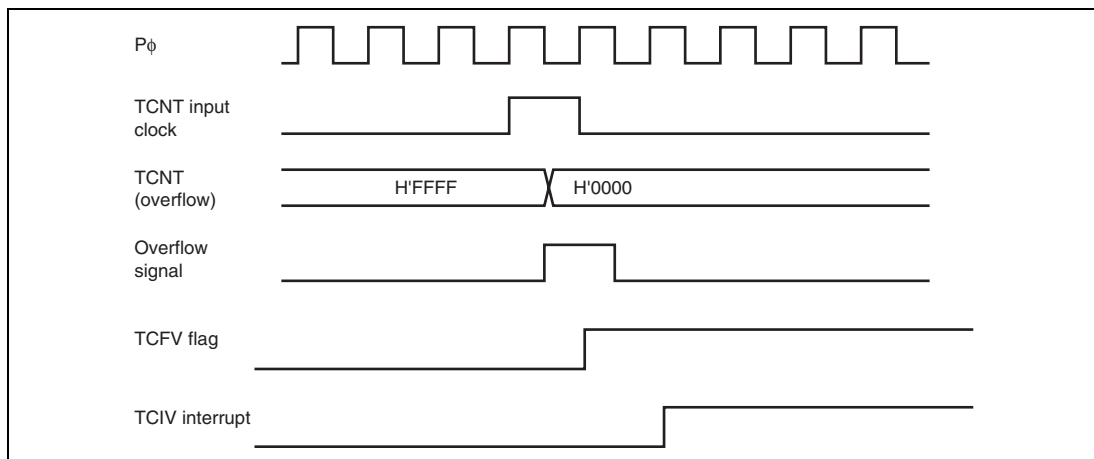

**Figure 11.66 TCIV Interrupt Setting Timing**
**TCFV Flag/TCFU Flag Setting Timing:** Figure 11.66 shows the timing for setting of the TCFV flag in TSR on overflow, and TCIV interrupt request signal timing.